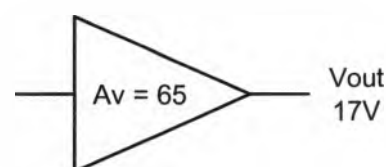

Figure 9
28. What is the input voltage of the amplifier in Figure 9?